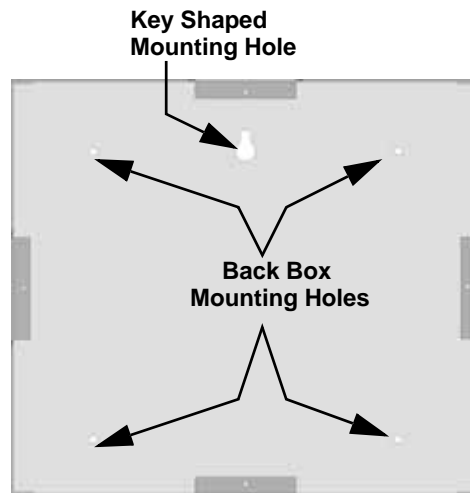

Figure 4-14 Back Box Surface Mount Holes
2. To properly mount the back box, insert a single screw into the key shaped mounting hole. Do not tighten all the way. See Figure 4-14.